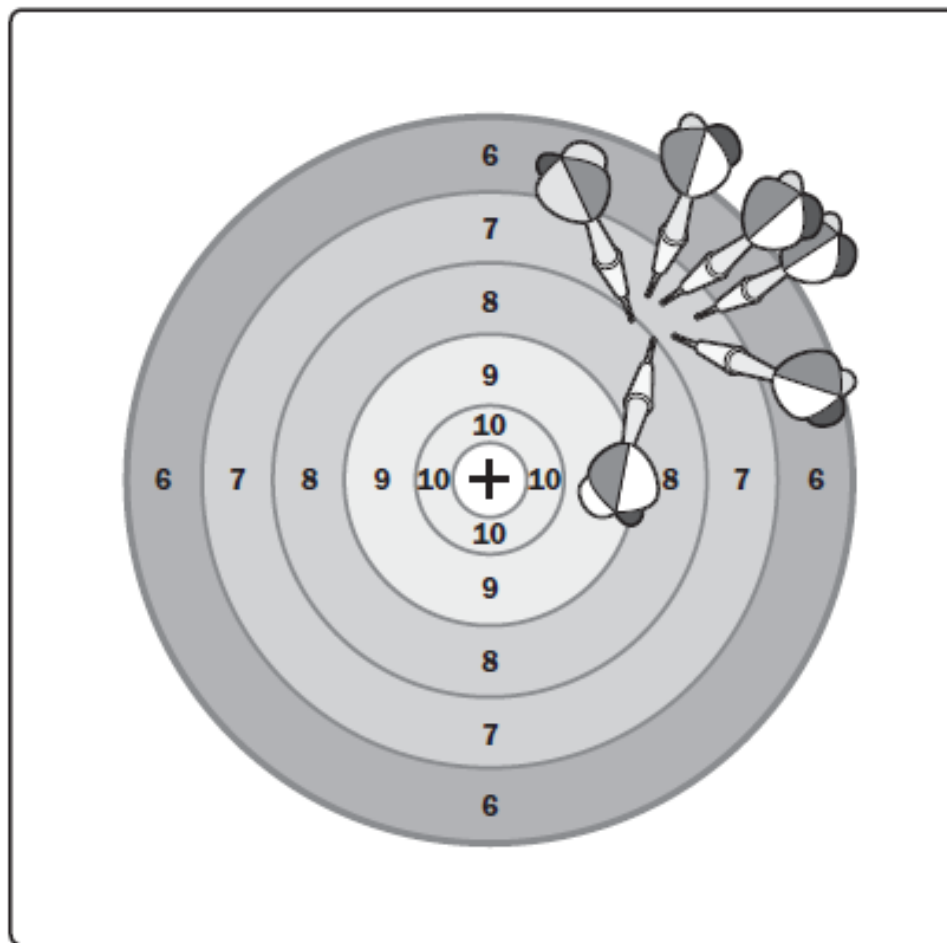

Figure 2-15. Low Accuracy, High Precision
- ▶ **Precision.** Precision is different from accuracy (see Figure 2-15). Precision refers to the degree of exactness associated with the estimate. For example, an estimate of 2 days is more precise than “sometime this week.” The precision of estimates should be compatible with the desired accuracy.